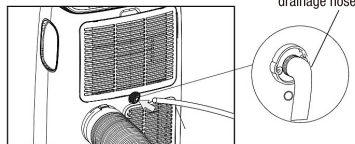

Fig.28
### Continuous Draining (Fig.28)
3. Connect the drain hose (1/2" or 12.7mm, not supplied) (Fig.28).